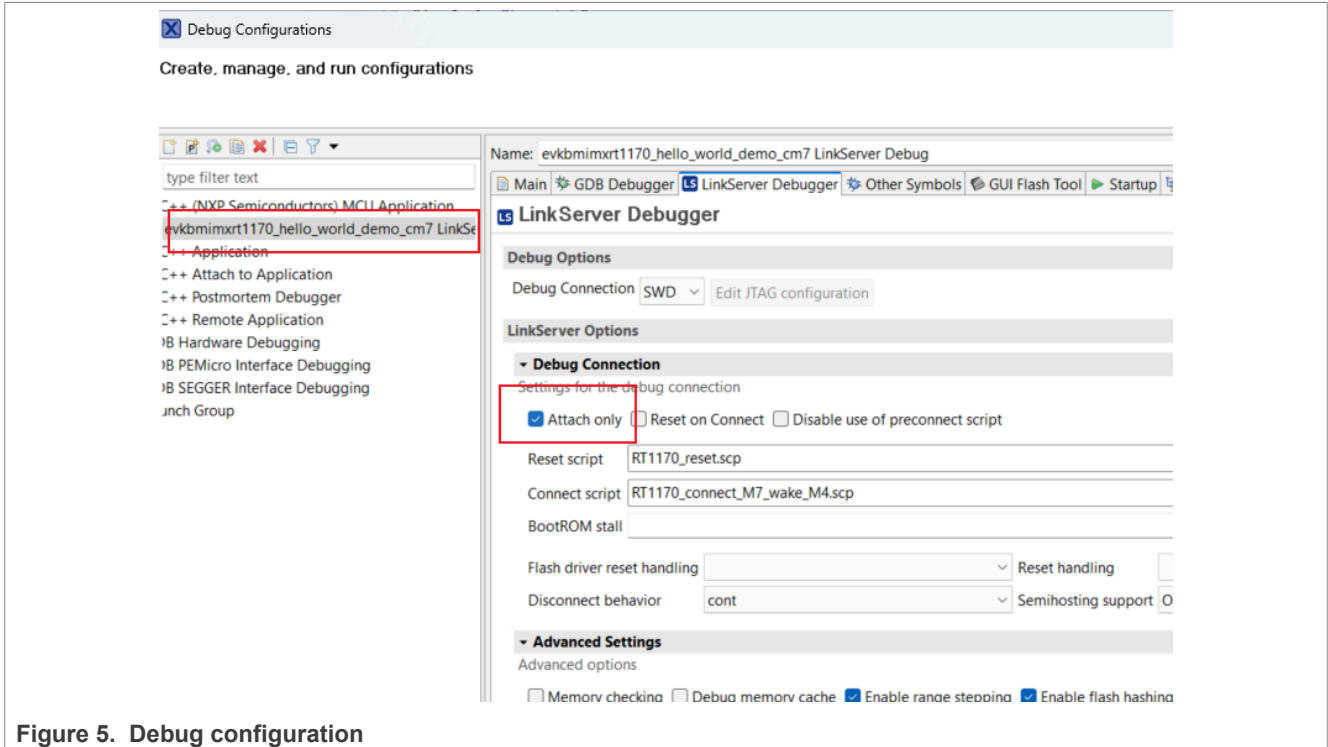

Figure 5. Debug configuration
5. Go back to the MCUXpresso IDE project, debug once to generate a debug configuration file, and then check the **Attach only** option in the debug configuration, as shown in Figure 5.